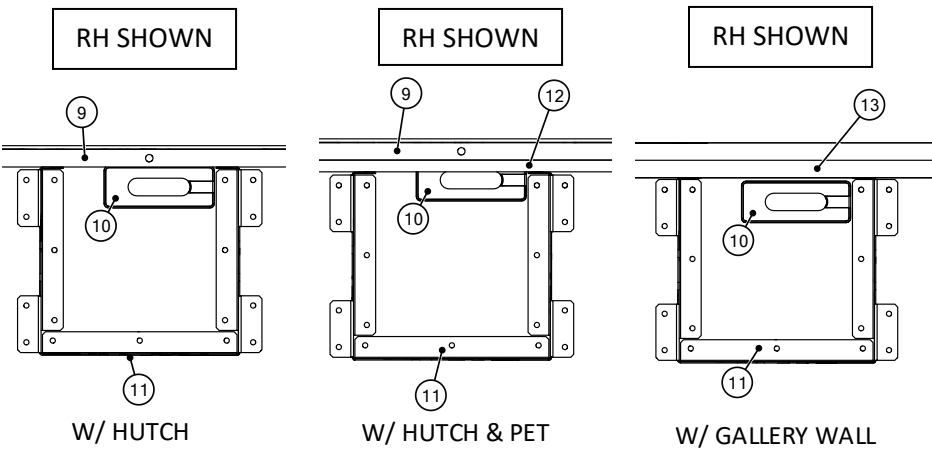

Figure 7
8. Align the desk support box to the edge of the right-hand side of the low credenza grommet; push desk support box flush with the hutch back board/PET/ Gallery Wall, (Figure 7).